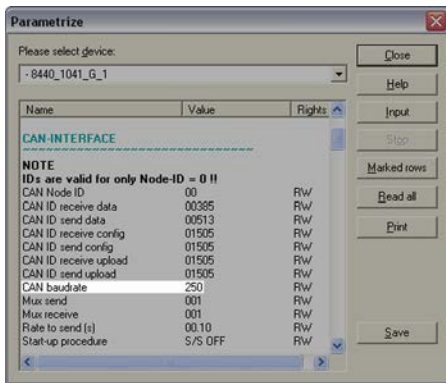

Fig. 190: Baud rate configuration (example LeoPC1)
2. For the first IKD 1 configure the baud rate as shown in ( Fig. 190).